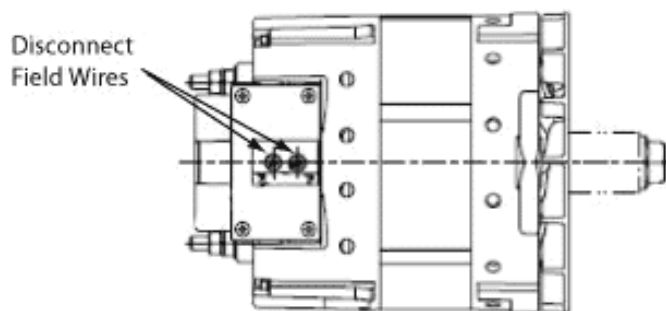

Figure 2
C. Disconnect the two (2) field leads from the alternator, tape the end of each lead individually with electrical tape and tie back out of the way (see Figure 2).